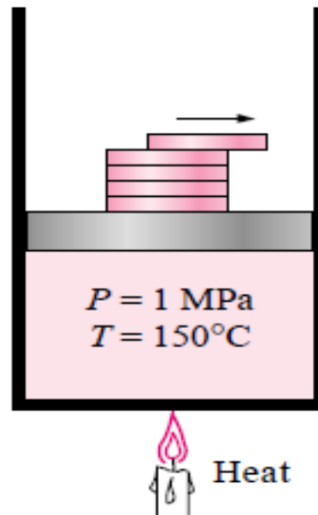

Fig. 3.11: The pressure in a piston-cylinder device can be reduced by reducing the weight of the piston.
- Consider again a piston-cylinder device that contains liquid water at 1 MPa and 150°C. Water at this state exists as a compressed liquid. Now the weights on top of the piston are removed one by one so that the pressure inside the cylinder decreases gradually (Fig. 3.11).